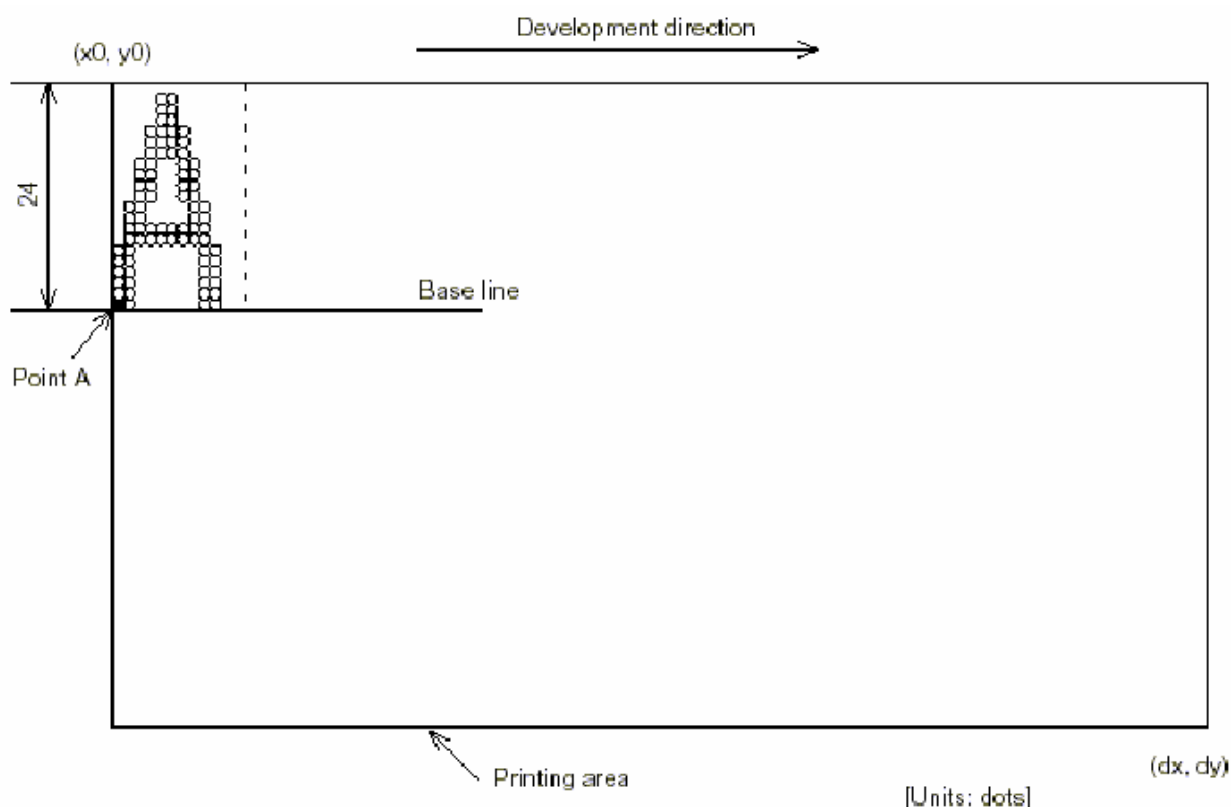
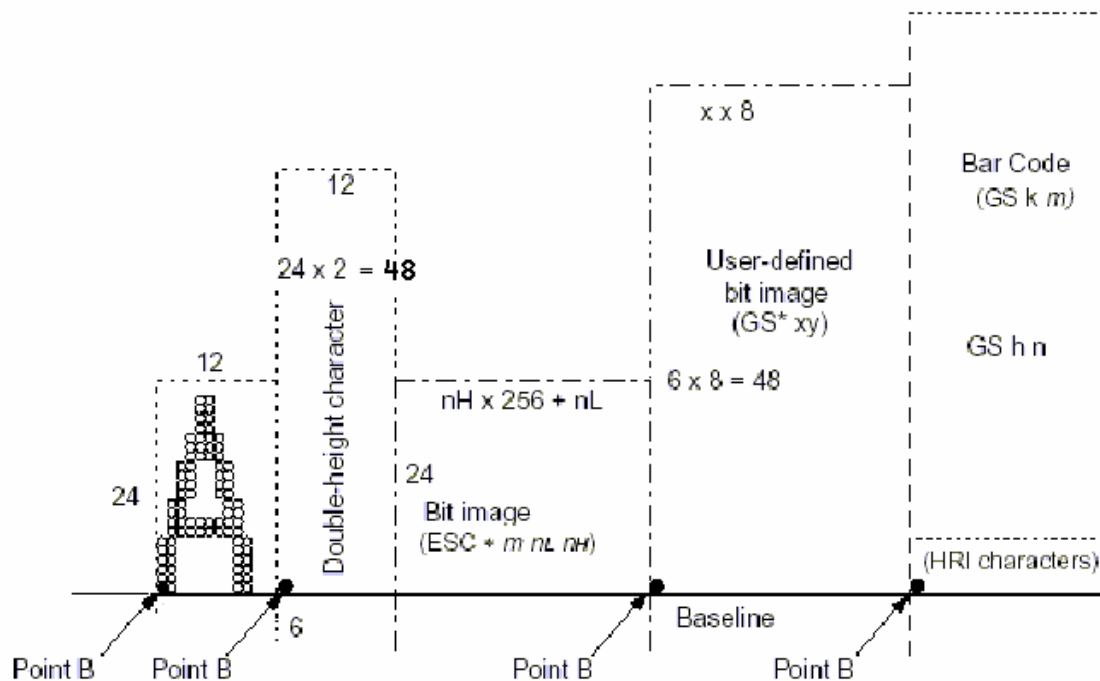

Figure B.2 Character Data Developing Position
Figure B.3 Print Data Developing Position
- 2) When the printer receives print data after **ESC W** sets the printable area and **ESC T** sets the printing direction, the print data is formatted within the printable area so that point A in Figure B.2 is at the beginning of the printable area as a default value. (When a character is printed, point A is the baseline.) Print data containing downloaded bit images or bar codes is formatted so that the bottom point of the left side of the image data (point B in Figure B.3) is aligned with the baseline. However, any Human Readable Interpretation (HRI) characters are printed under the baseline. At the points labeled Point B, if characters (such as double-height characters) higher than normal size characters or downloaded bit image characters are received, any part of the character higher than the normal-size character is not printed.